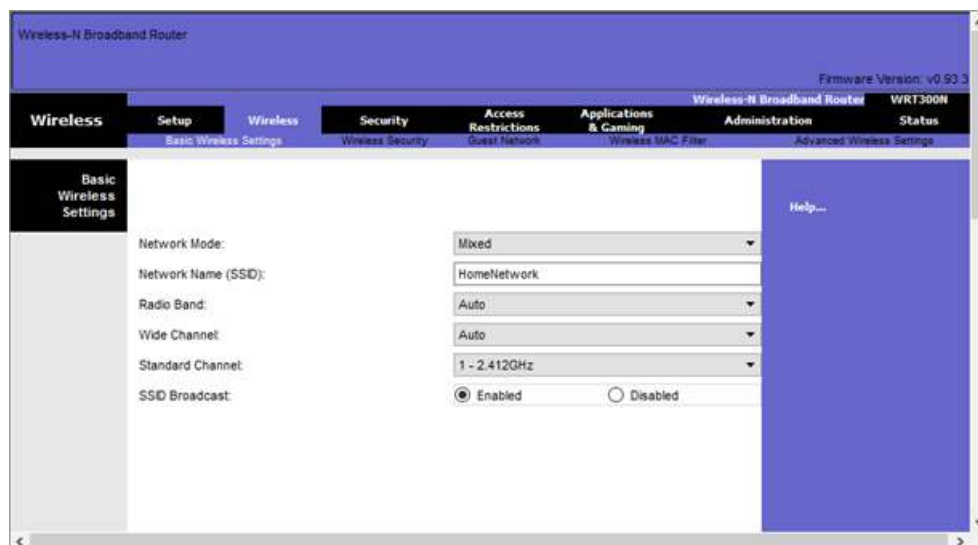

Figure 4.3: (Wireless Tab) Configuring the Wireless Network in the Wireless Router
- Click the **Wireless Router**, then select the **GUI** tab and choose **Wireless** (as shown in Figure 4.3).